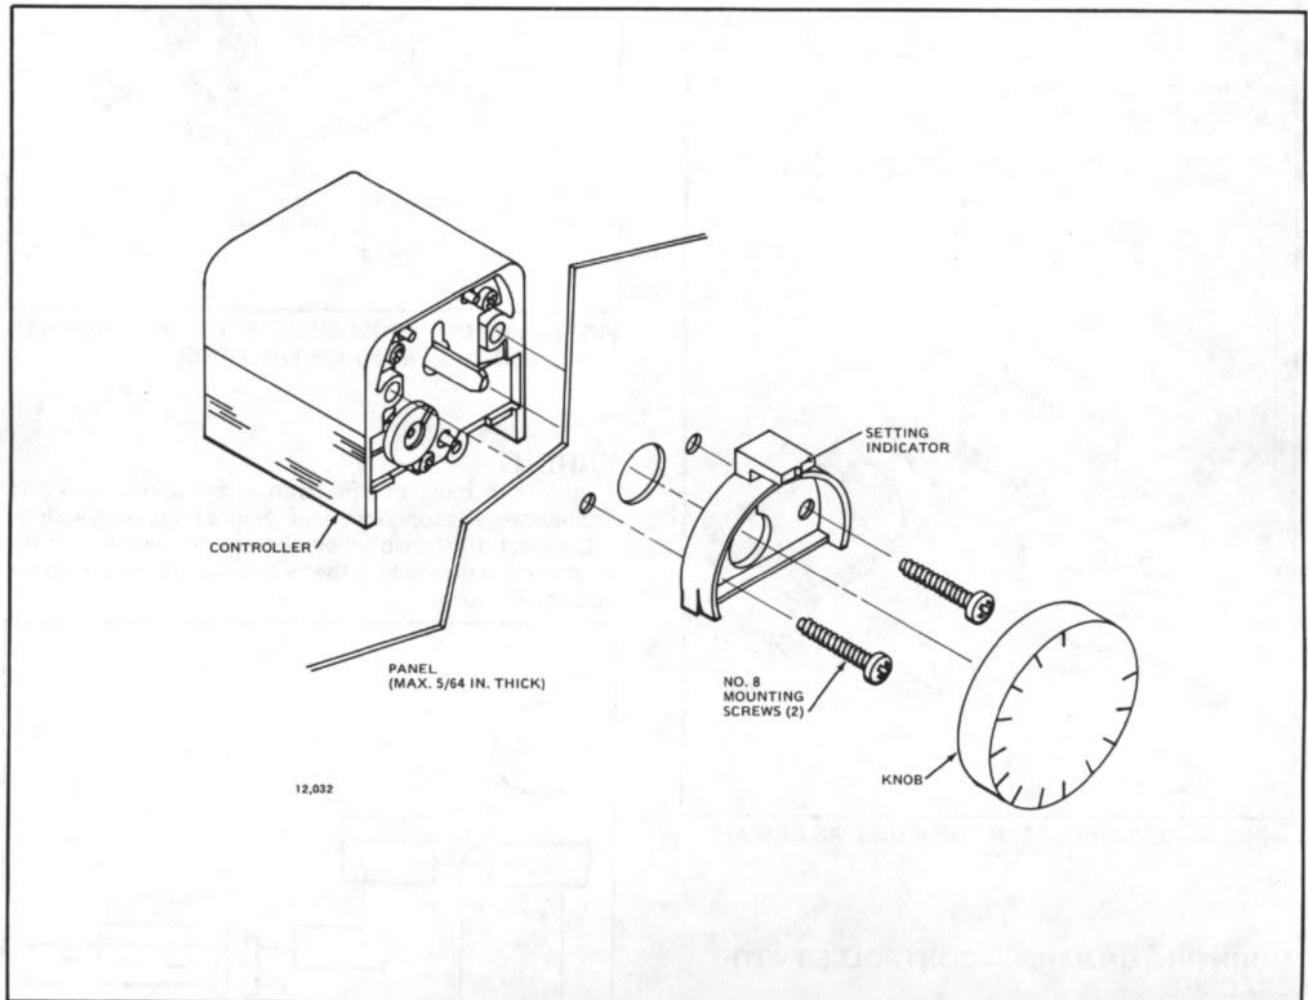

FIG. 5—THE MOUNTING SCREWS HOLD THE SETTING INDICATOR AND CONTROLLER IN PLACE.
3. Remove the two screws that hold the setting indicator in place and remove the setting indicator. See Fig. 5.
6. Mount the controller behind, and the setting indicator in front of, the panel using the two screws removed earlier. See Fig. 5.